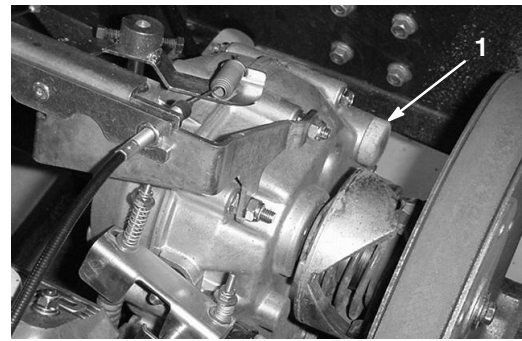
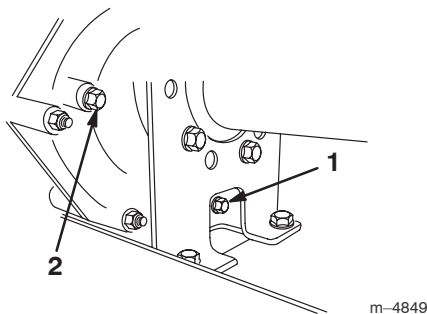

Figure 43
Figure 42
2. Remove the drain plug from the right side of the reservoir (Fig. 42) and let the fluid flow into a drain pan. Install and tighten the plug when the fluid stops draining.
3. Fill the reservoir (Fig. 43) with approximately 1-1/2 qt. (1.4 liters) of SAE 10W30 motor oil or until the oil level is at the bottom of the level indicator hole (Fig. 42).